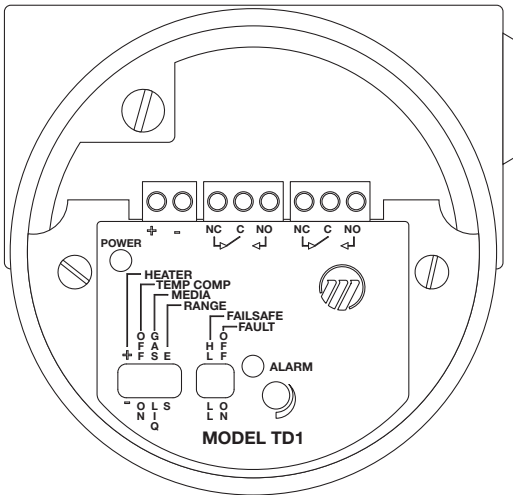
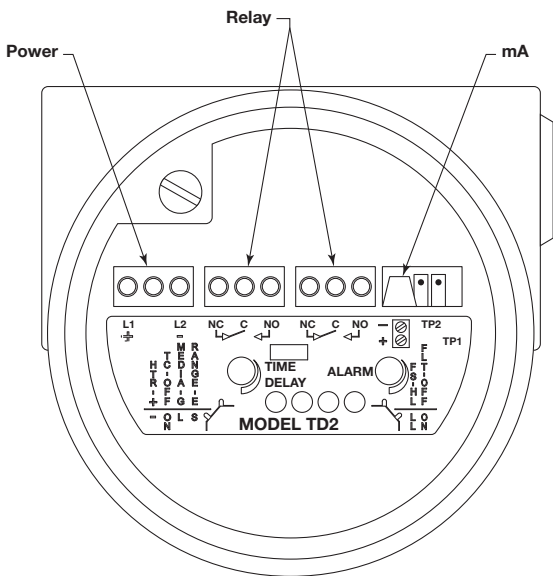

Figure 6
Figure 7
4. Connect power leads to proper terminals. Refer to Figure 6 for TD1 or Figure 7 for TD2 electronics. Note that the TD1 transmitter shall be connected to a safety extra low-voltage circuit (SELV) with a $U_m \leq 28.8$ V. The TD2 is available for AC power (100 to 264 VAC) or as a DC power (19.2 to 28.8 VDC).
5. Perform Relay Connections (refer to Figure 6 for TD1 or Figure 7 for TD2 electronics).
Wiring of the mA output is shown in Figure 7 on page 6. Wiring should be 16 to 26 AWG.